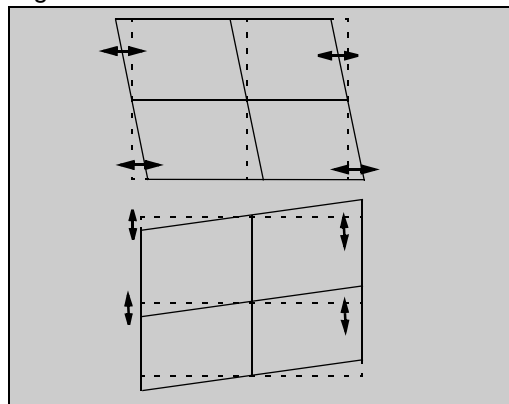

Figure 44. **SKEW adjustment**
23. Adjust "R-SKEW" so that the vertical and horizontal line of center overlaps with green (See Figure 44)